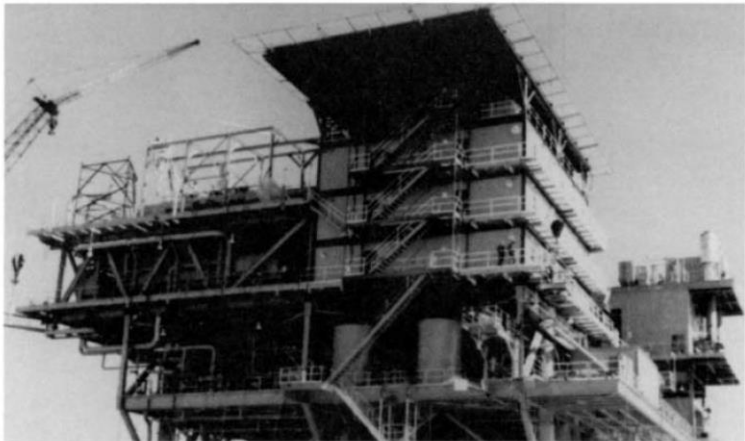
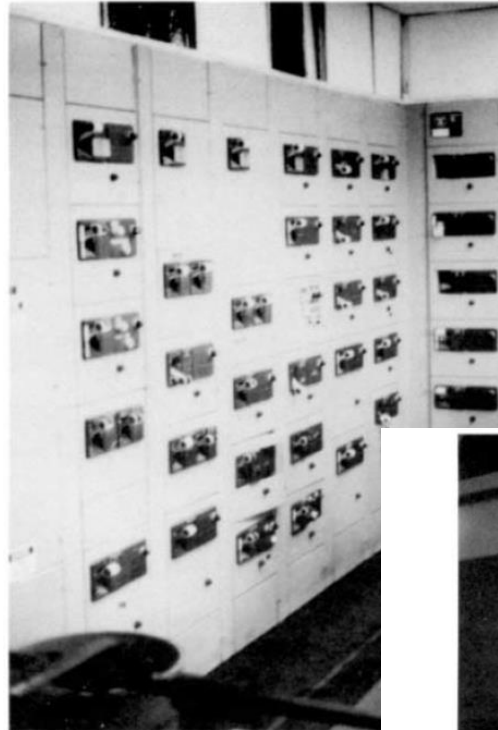
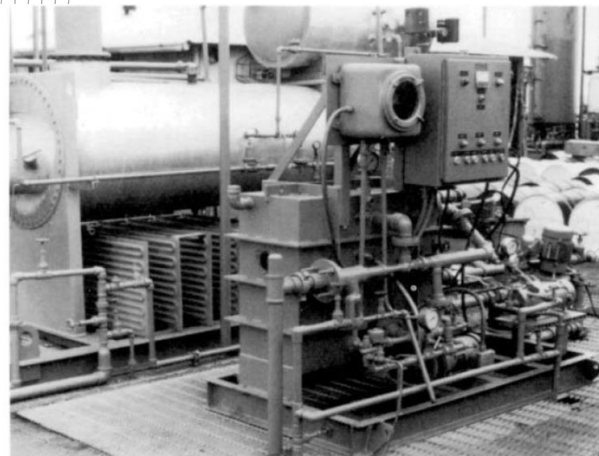

Figure 1-16. A three-story quarters building on a deck just prior to loadout for cross-ocean travel. A helideck is located on top of the quarters.
Figure 1-17. A portion of the motor control center for an offshore platform.
Figure 1-19. A vacuum distillation water-maker system.
3. Providing facilities for personnel, including quarters (Figure 1-16), switchgear and control rooms (Figure 1-17), workshops, cranes, sewage treatment units (Figure 1-18), drinking water (Figure 1-19), etc.